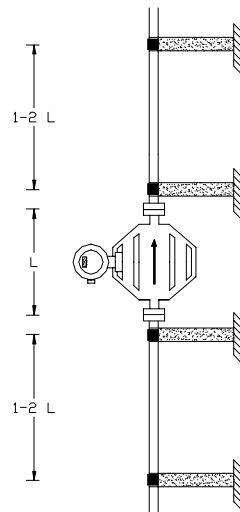

Fig. 14 Distance of additional supports
For long pipe runs additional pipe supports must be installed 1 to 2 transducer lengths (L) apart (fig. 14).